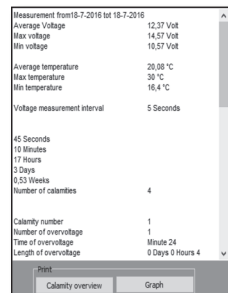

Figure 9: Calamity overview
Figure 9 shows an example of an event log. First, general information related to the BDL will be shown. If the filter(s) of the BLD Smart View have been used, all traced calamities will be shown here. Every calamity is given a number. This number can be used to display the relevant calamity in the graph through the graph navigation panel. For more information, also see item 5: filter settings.